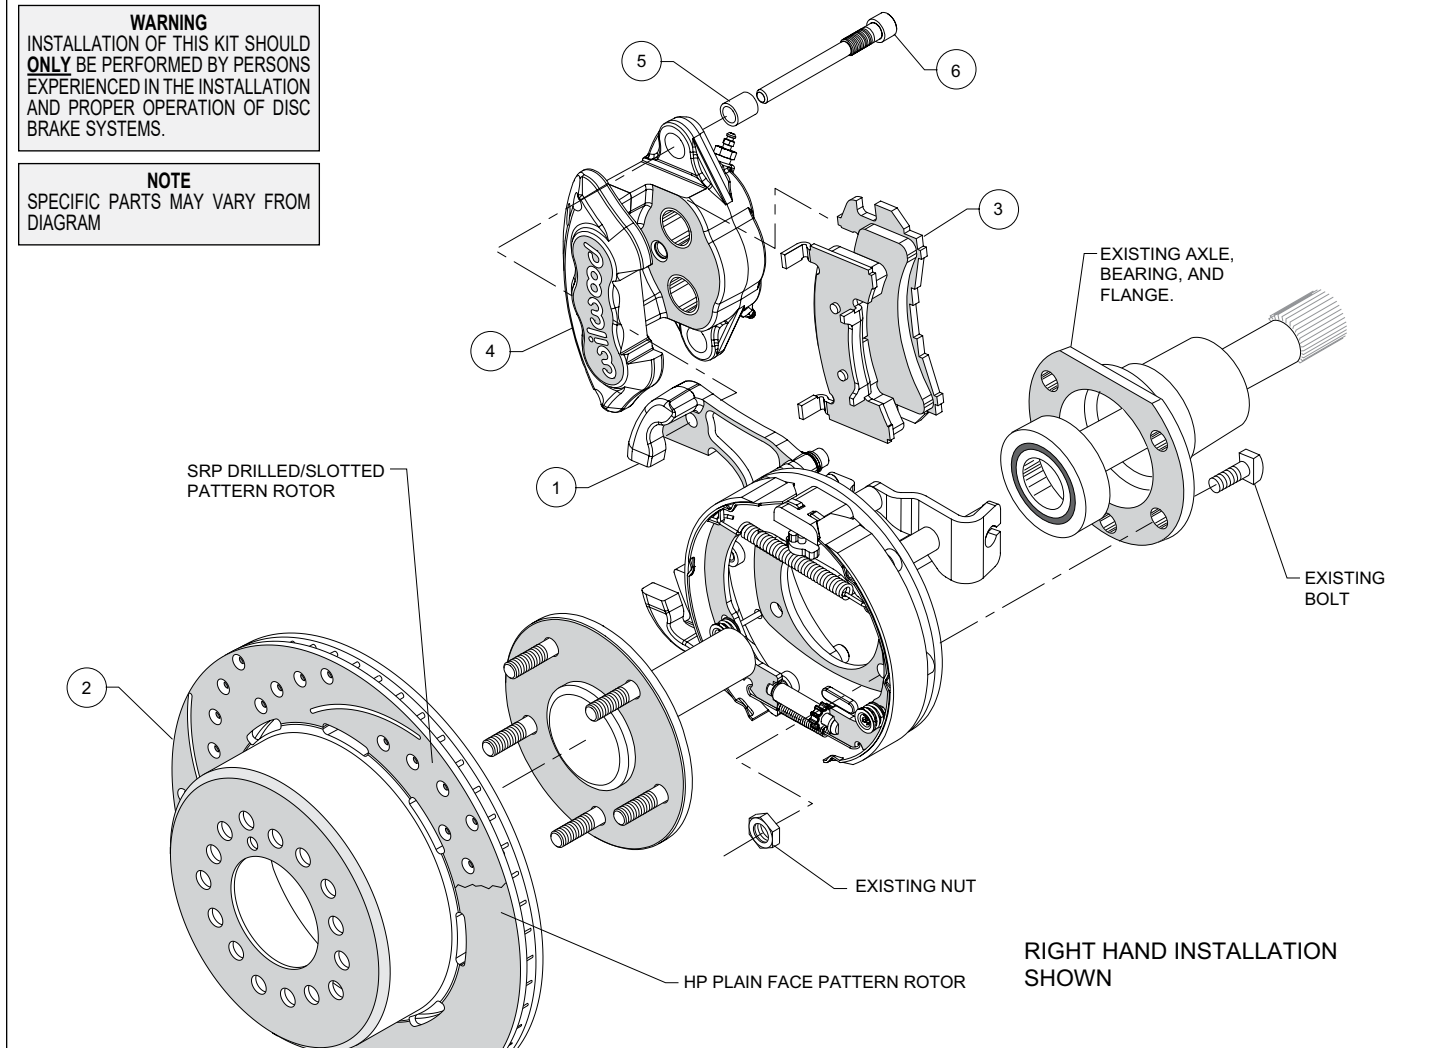

Figure 1. Typical Installation Configuration
**NOTE:** Numbers in parenthesis refer to the parts list and Figure 1 on the preceding pages.
- Orient the bracket assembly (1) as shown in Figure 1, and mount to the axle housing flange using the Original Equipment Manufacturer (OEM) bolts and nuts, Figure 1. Ensure that the bracket assembly backing plate fits flush against the axle housing flange. Apply red *Loctite*® 271 to the OEM bolt threads and torque to OEM specifications.
- Align the correct hole pattern in the rotor/hat (2) with the stud pattern on the axle flange and slide into place, Figure 1 and Photo 1. **NOTE:** The rotor/hat must fit flush against the axle flange or excessive rotor run out may result. Install three lug nuts (finger tight) to keep the rotor/hat assembly in place while continuing with the installation. **NOTE:** Some OEM and after market axles come with stud sizes larger than 0.50" diameter. Verify stud size and have a qualified machine shop drill the bolt circle of the hat/rotor to the correct stud size, if necessary.
- Install the disc brake pads (3) into the caliper (4) with the friction material facing the rotor, as shown in Figure 1 and Photo 2.
- Install sleeves (5) onto slide pin bolts (6). Apply white lithium grease (available from your local auto parts store) to the slide pins/sleeves, as shown in Photo 3. **Do not apply to threads.** Mount the caliper (4) onto the mounting bracket (1) using slide pin bolts, as shown in Figure 1. Torque to 35 ft-lbs.